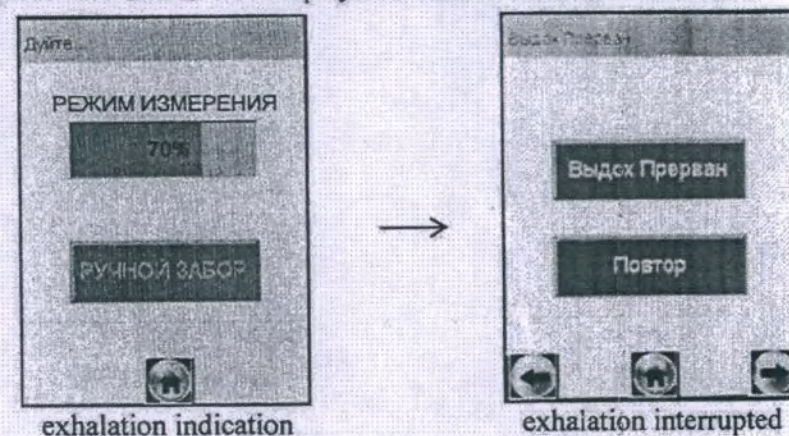
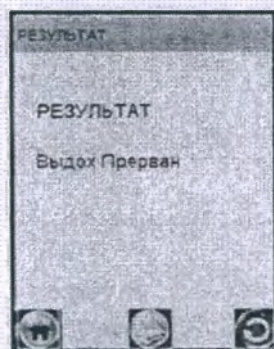

Figure 21 – Breathing test failure
Figure 22 – Result “Exhalation Interrupted”
2.8.22 If, when performing 2.8.13 of this OM, the exhaled air sample does not meet the required parameters for flow or volume (specified in 1.2.5 of this OM), i.e. if exhalation is interrupted, the “ **Exhalation Interrupted** ” window will be displayed on the screen (Figure 21, right).
To do this, when the “**Exhalation Interrupted**” window is displayed on the screen (Figure 21, right), press the virtual button “**Exhalation Interrupted**” - a corresponding message will appear on the screen (Figure 22).